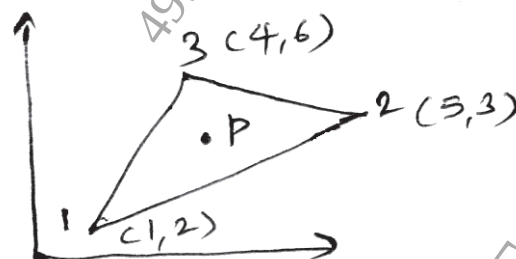

Fig.3
b) The nodal coordinate of triangular element are as shown in fig 3. The X coordinate, of interior point is 3.3 and shape function $N_1=0.3$ determine N_2 , N_3 and Y coord of point P. [6]